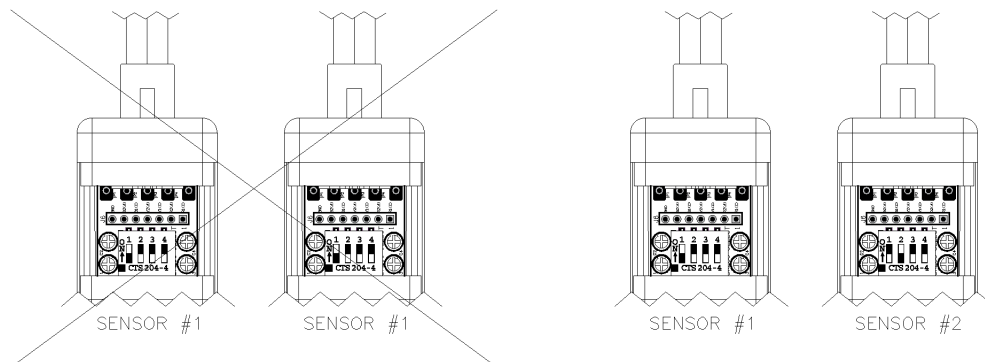

Figure 7. Incorrect vs. Correct Sensor Numbering
- Set the new sensor to a sensor number that does not already exist in the current group of sensors. See Figure 7.